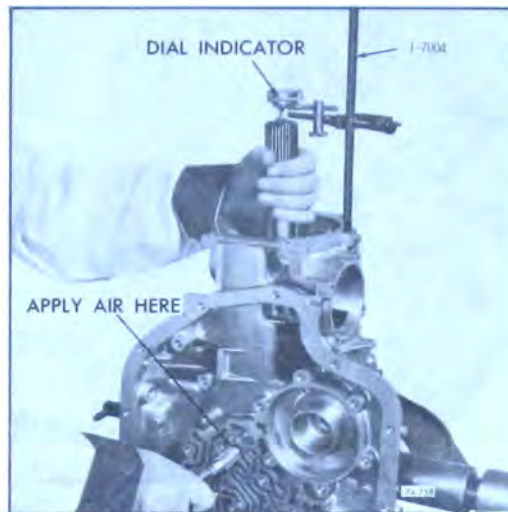

Figure 74-758
16. Check rear end play as follows: See Figure 74-758.
a. Install J-7004 into an extension housing attaching bolt hole. See Figure 74-758.